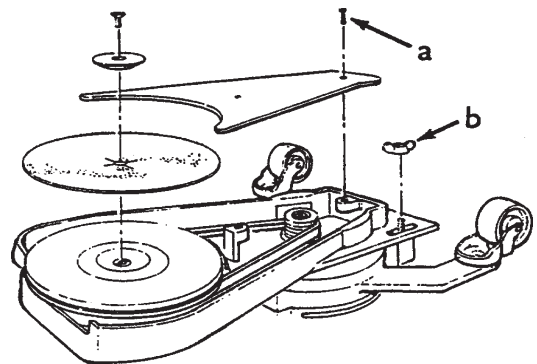
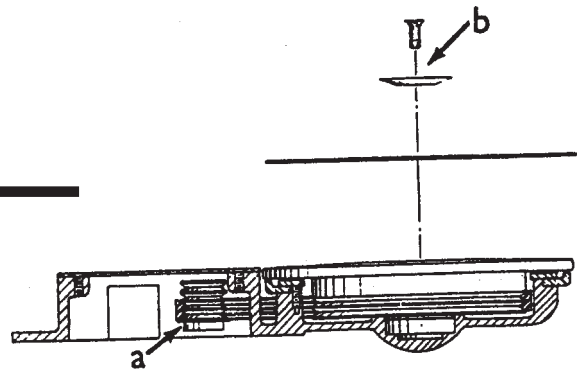

Figure 2.1
Figure 2.2
3. Remove belt guard (figure 2.1-a). Position extension over motor and start thumb screw (figure 2.1-b). **Position drive belt in lower most set of grooves on motor pulley as shown in figure 2.2-a (for the kick-toe extension with 7" dia. pad.)** The upper most set of grooves are reserved for use with all other attachments. Tension drive belt, then tighten thumb screws. Rotate pad driver to inspect position of drive belt in motor pulley and pad driver belt grooves.
5. Remove screw and abrasive retainer. Center abrasive on pad and secure with abrasive retainer and screw. (Figure 2.2-b)